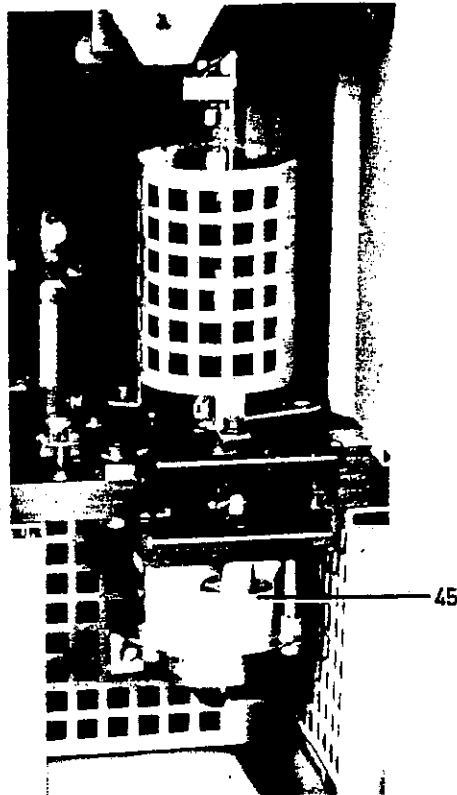

Figure 4-4. Sodium lamp installed in Model 241 MC
Loosen the retaining thumb screw (pos. 45, figure 4-4) and withdraw the lamp mount.
Slide the mount with the selected lamp fully into the guide channel and tighten up the retaining thumb screw (see figure 4-4).